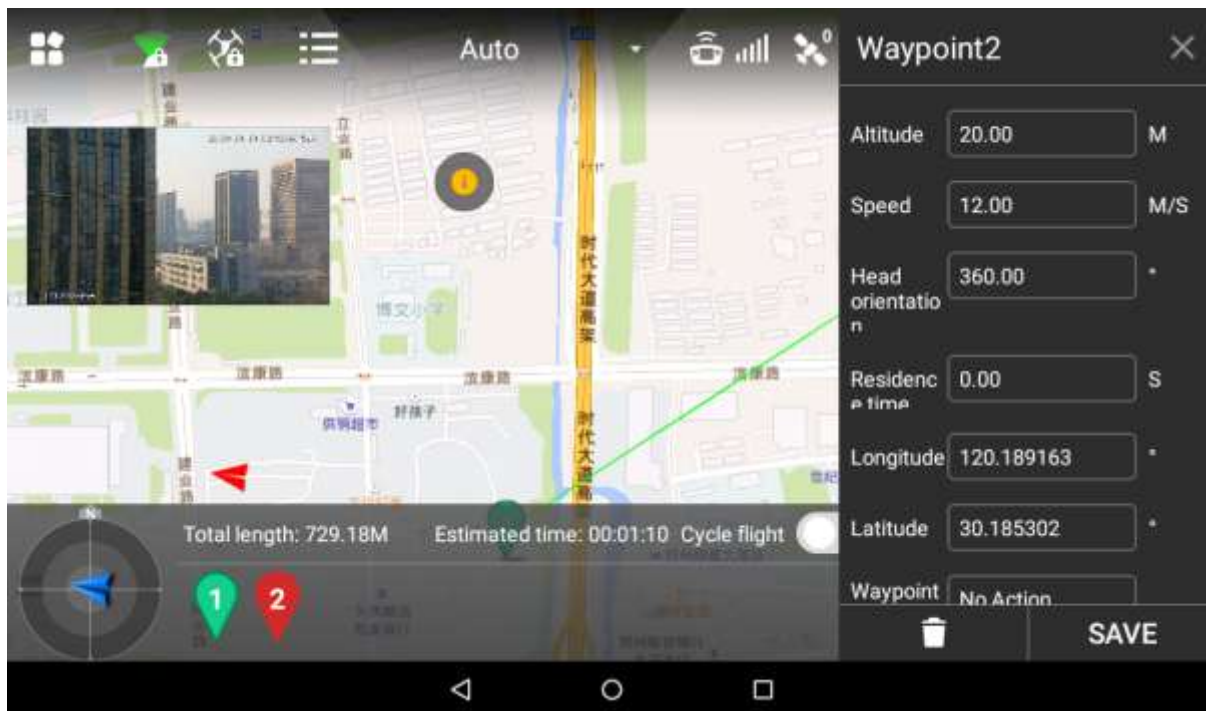

Figure 0-13
Step 3 Click a waypoint and it will become red. Waypoint setting interface will display on the right of the interface, as shown in Figure 0-13.